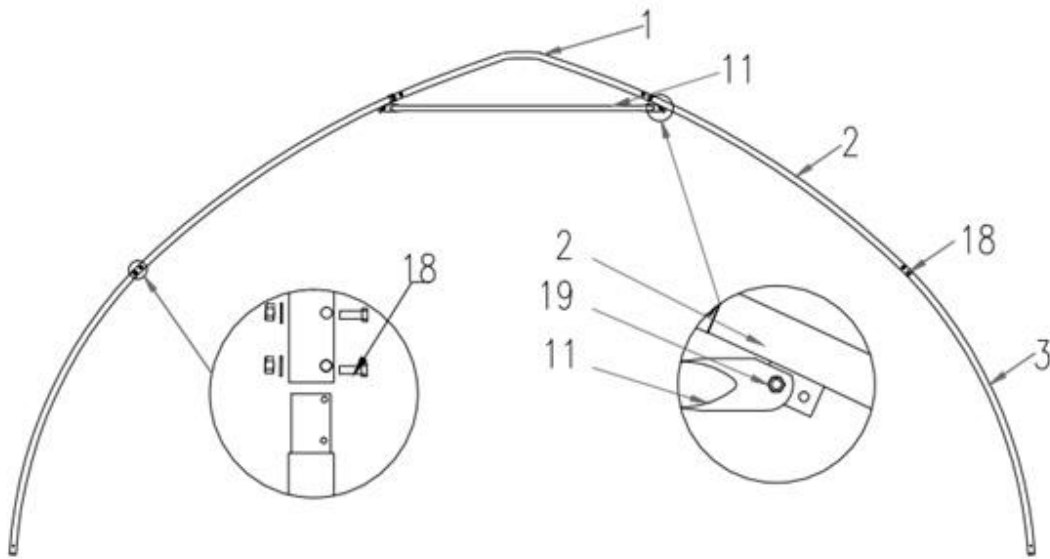

Figure 3
- The (15) middle trusses include the following parts. Connect all tubes with bolt (#18) (refer to figure 3).